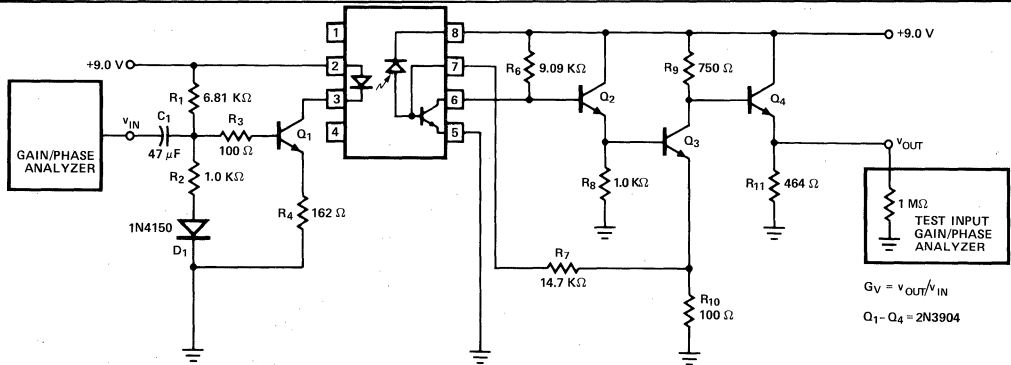
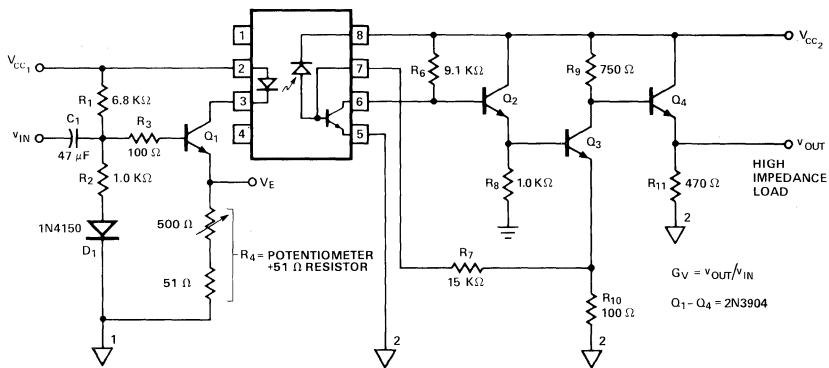

Figure 1. Gain and Bandwidth Test Circuit
Figure 4. Recommended Isolated Video Interface Circuit
1. When used in the circuit of Figure 1 or Figure 4; $G_V = V_{OUT}/V_{IN}$.
The application circuit in Figure 4 incorporates several features that help maximize the bandwidth performance of the HCPL-4562. Most important of these features is peaked response of the detector circuit that helps extend the frequency range over which the voltage gain is relatively constant. The number of gain stages, the overall circuit topology and the choice of DC bias points are all consequences of the desire to maximize bandwidth performance.